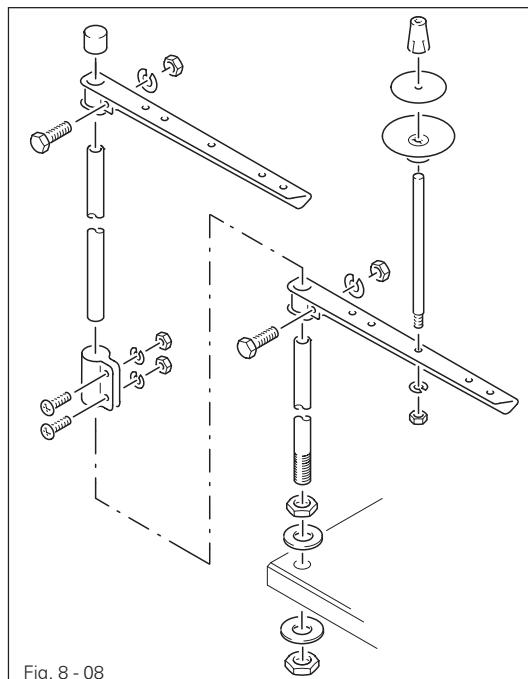

Fig. 8 - 08
- Fit the reel stand as shown in Fig. 8 - 08.